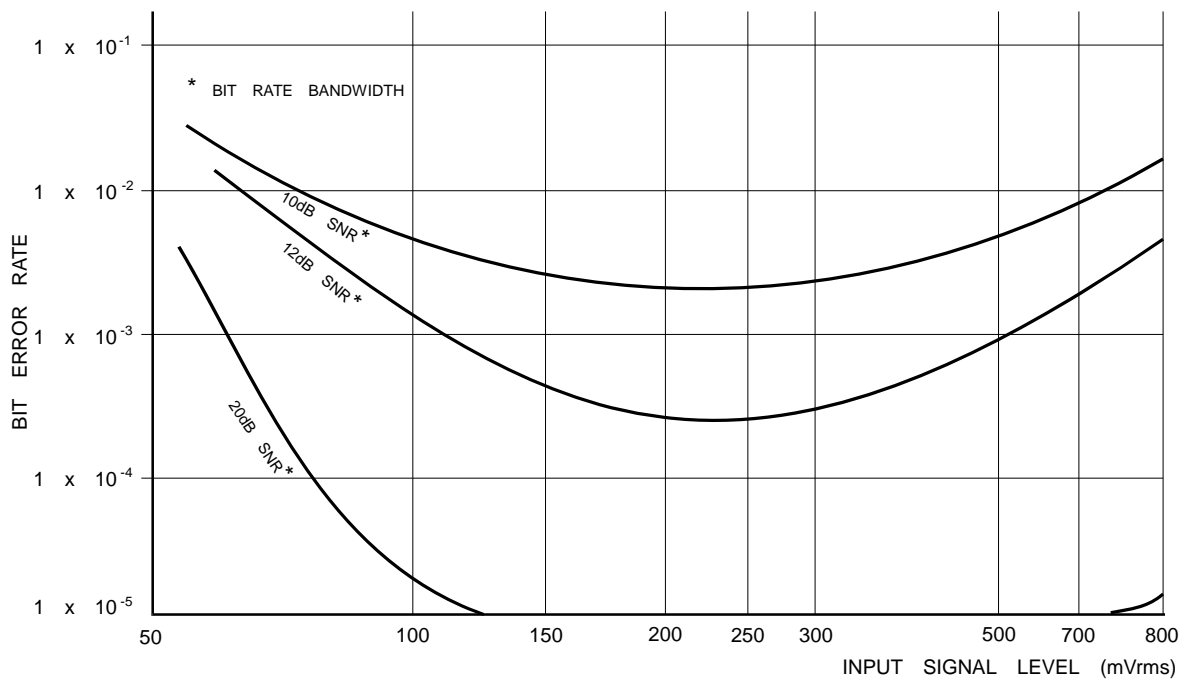

Figure 7 Typical Variation of Bit Error Rate with Input Level
3. See Figure 7 (Typical Variation of BER with Input Signal Level).